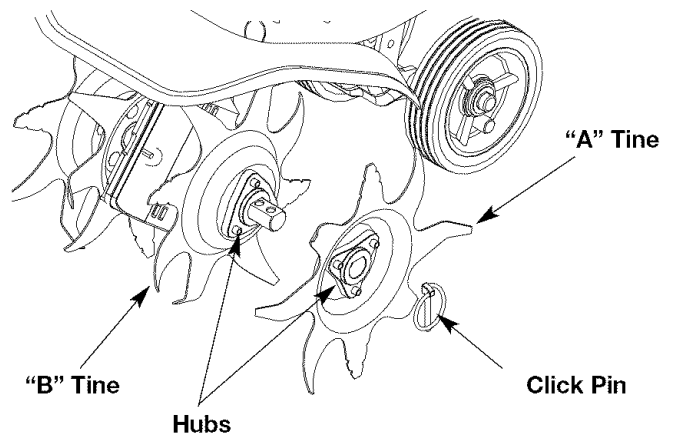

Fig. 14
- Remove the click pin from each end of the tine shaft. Slide the tines off the shaft (Fig. 14).